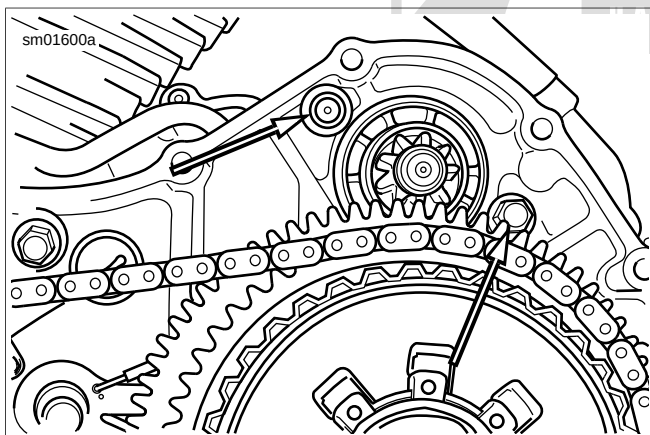

Figure 6-18. Starter Mounting Bolts
6. See Figure 6-18. Remove the two starter mounting bolts and washers.
2. See Figure 6-18. Install two starter mounting bolts and washers. Tighten to 13-20 ft-lbs (17.6-27.1 Nm).